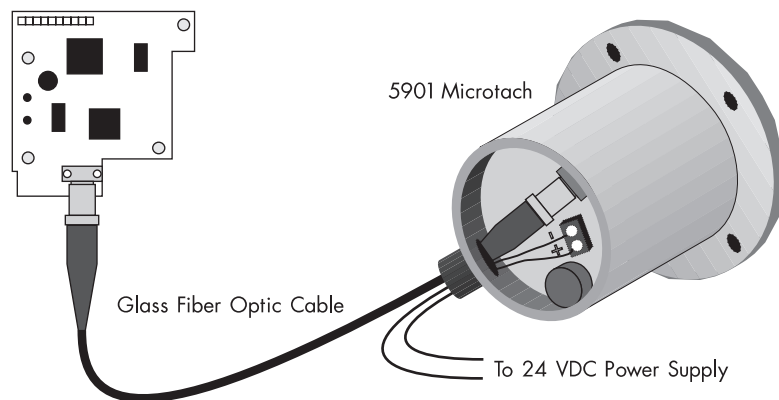

Figure A.6 - Connecting a 5901 Microtach to the 5901 Microtach Receiver Card
1. Connect the encoder as shown in Figure A.6.
1. Connect the A and B channels to terminals E3 and E5 as shown in Figure A.6.